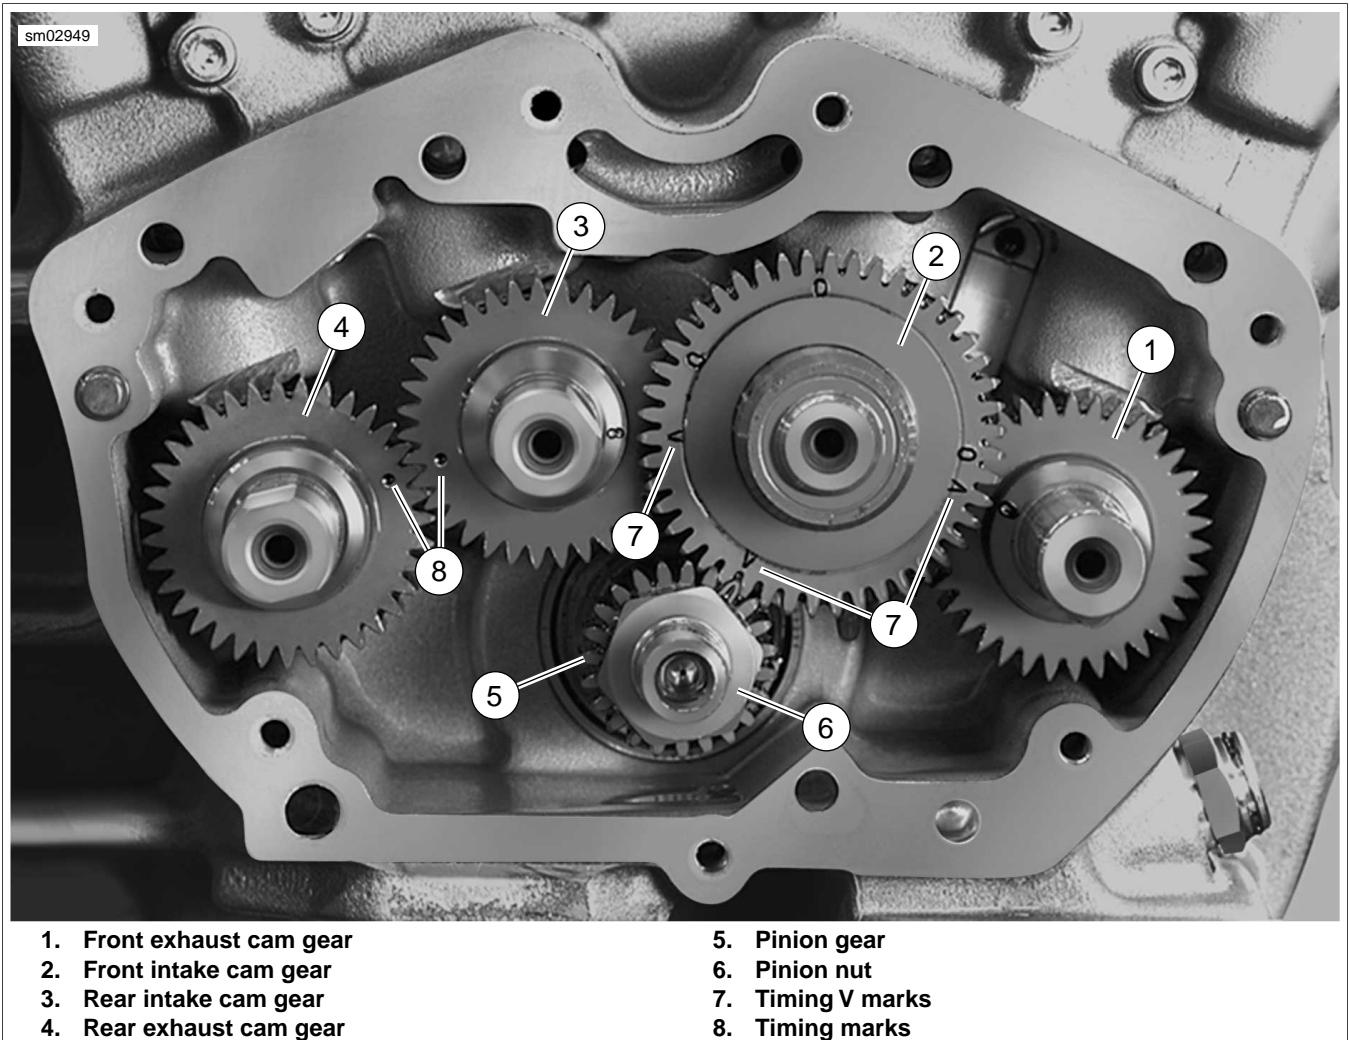

Figure 3-110. Cam and Pinion Gear Location and Timing Mark Indexing
7. See Figure 3-110. Rotate crankshaft until all timing marks (7, 8) are aligned as shown.
8. See Figure 3-110. Remove cam gears (1, 2, 3 and 4).
See Figure 3-110. The timing marks are located on the front intake cam gear (2). Note the "V" marks (7).
- b. See Figure 3-110. Install CRANKSHAFT LOCKING TOOL (Part No. HD-43984) to gearcase with "Side B" facing out, over pinion shaft, with two screws.